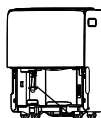
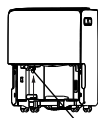

Fig.7
Fig.8
- If the pump hose drops when you remove the bucket (see Fig.7), you must reinstall the pump hose properly to the unit before replace the bucket into the unit (see Fig.8).